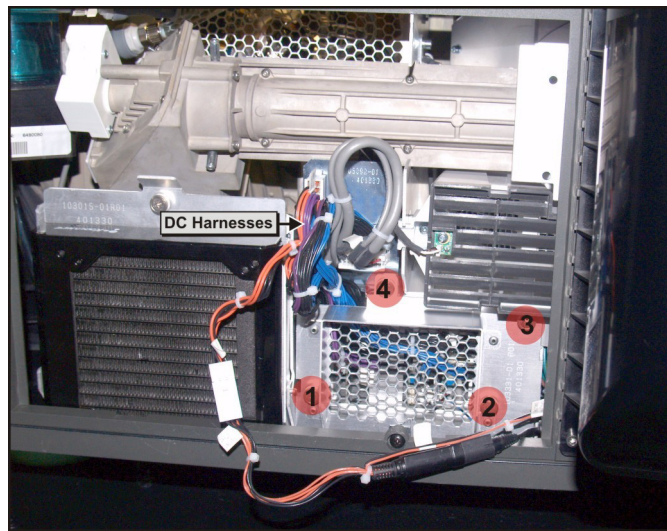

Figure 5-37 Remove LVPS
3. Loosen the four captive screws securing the LVPS cover (**Figure 5-37**).
4. Disconnect the four DC harnesses (**Figure 5-37**).